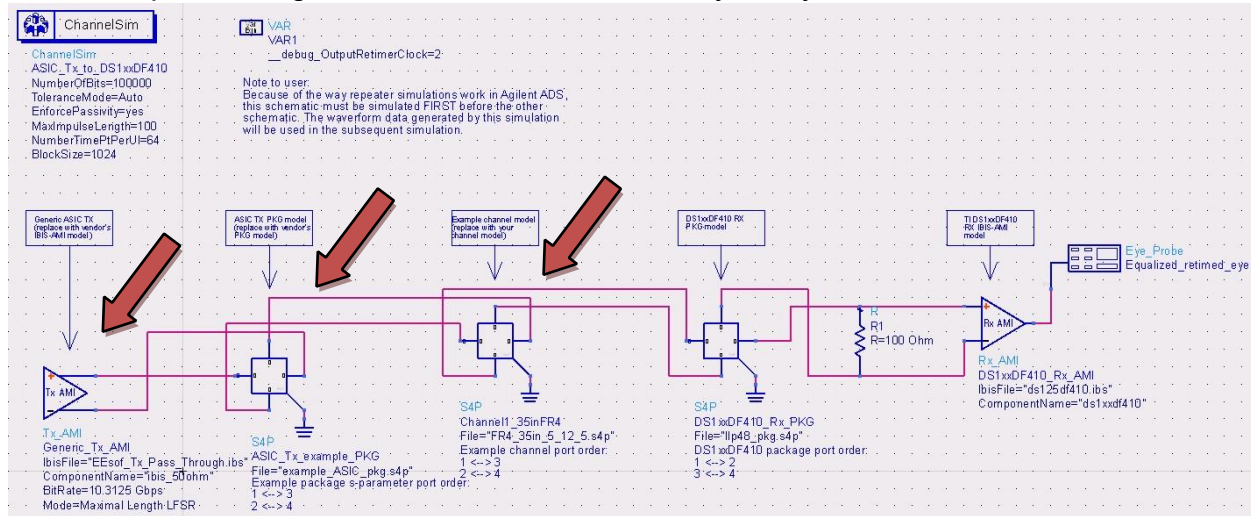

Figure 3: ASIC TX to DS1xxDF410 schematic (user should replace the items with arrows pointing to them)
*Note: The Rx termination in the DS1xxDF410 IBIS-AMI model is modeled using [Series Pin Mapping] and [R series] within the .ibs file. However, Agilent ADS Rx\_AMI does not look at the [Series Pin Mapping] and any series models between the differential pins. So the 100 Ohm differential termination needs to be added separately in the schematic, as shown in Figure 3.*